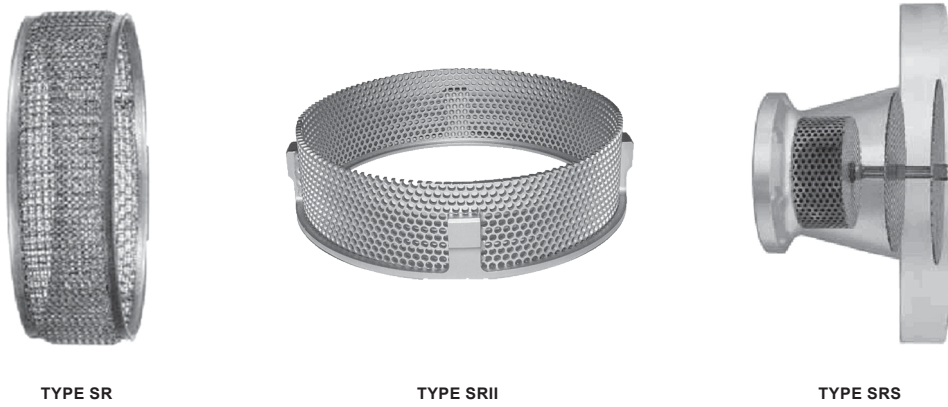

Figure 6. Noise Abatement Construction
Type SR: Type SR (Figure 6) multi-path noise abatement device is incorporated into the regulator on the seat area. It consists of plated Stainless steel wires containing no sound deadening materials.
Type SRII: The Type SRII (Figure 6) noise abatement device is the next generation of Type SR and is used in case of extreme service conditions (dirty gas, high pressure drops and high gas velocities). Noise characteristics are very similar to the standard Type SR.
Type SRS: A second noise reduction device may be added to the FLA1 Series regulators. Type SRS (Figure 6) consists of a Type SR or SRII plus a widened outlet flange in which a second silencer is fitted. Noise reduction is based on the principle of stream splitting and gradual expansion in several stages. By using a wider outlet flange the silencer can be mounted integral to the regulator body which allows installation of the regulator directly into the downstream piping without an expansion joint. Noise reduction up to 25 dB (A) is reached without limiting the velocity in the outlet flange with a Cg reduction of about 15%.